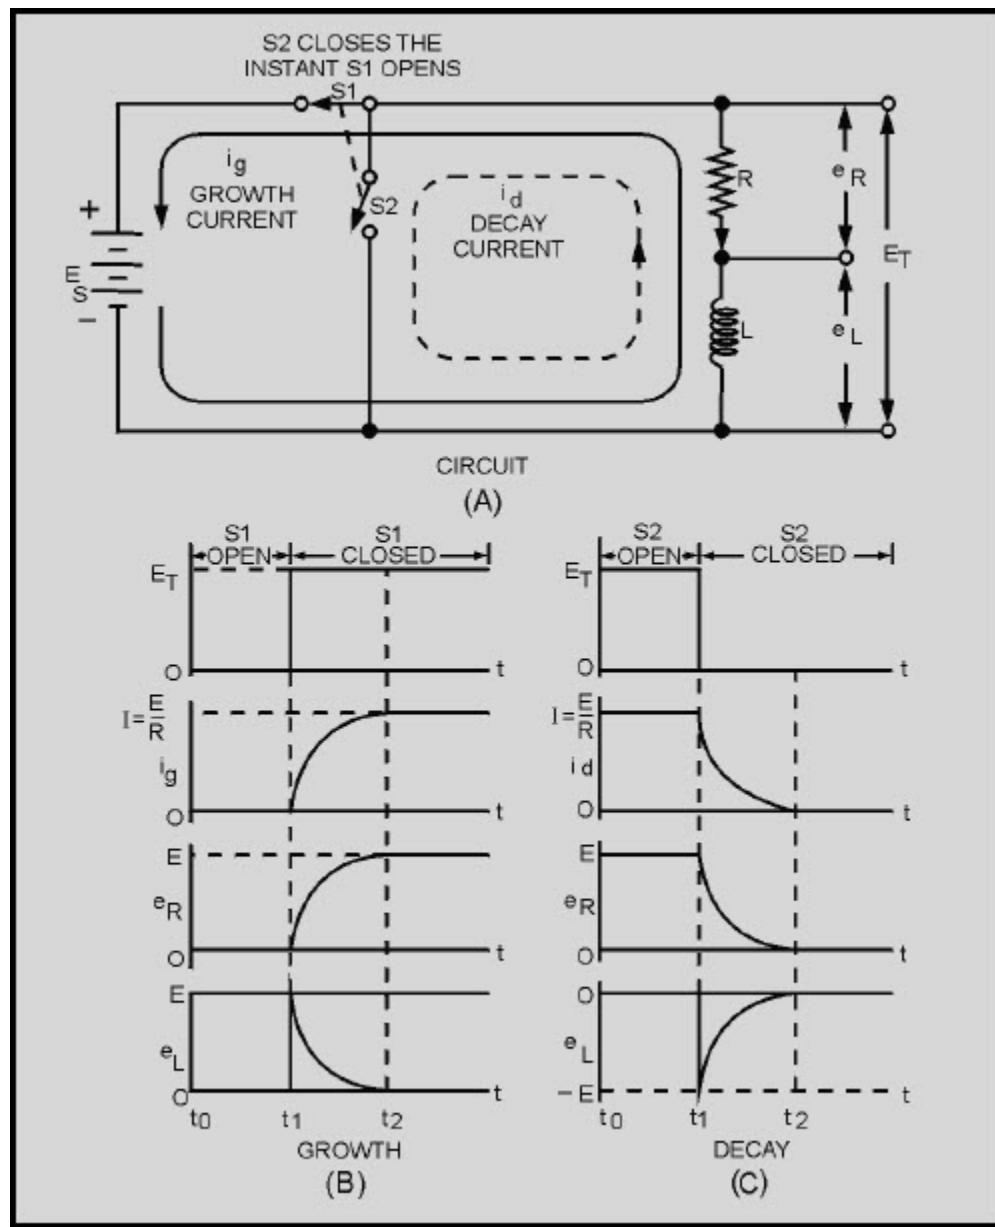

Figure 2-10 Growth and decay of current in an LR series circuit
A voltage divider containing resistance and inductance may be connected in a circuit by means of a special switch, as shown in figure 2-10(A). Such a series arrangement is called an LR series circuit.
When switch  $S_1$  is closed (as shown), a voltage  $E_s$  appears across the voltage divider. At this instant the current will attempt to increase to its maximum value. However, this instantaneous current change causes coil  $L$  to produce a back EMF, which is opposite in polarity and almost equal to the EMF of the source. This back EMF opposes the rapid current change. Figure 2-10(B) shows that at the instant switch  $S_1$  is closed, there is no measurable growth current ( $i_g$ ), a minimum voltage drop is across resistor  $R$ , and maximum voltage exists across inductor  $L$ .
As current starts to flow, a voltage ( $e_R$ ) appears across  $R$ , and the voltage across the inductor is reduced by the same amount. The fact that the voltage across the inductor ( $L$ ) is reduced means that the growth current ( $i_g$ ) is increased and consequently  $e_R$  is increased. Figure 2-10(B) shows that the voltage across the inductor ( $e_L$ ) finally becomes zero when the growth current ( $i_g$ ) stops increasing, while the voltage across the resistor ( $e_R$ ) builds up to a value equal to the source voltage ( $E_s$ ).
When the battery switch ( $S_1$ ) in the LR circuit of figure 2-10(A) is closed, the rate of the current increase is maximum in the inductive circuit. At this instant all the battery voltage is used in overcoming the emf of self-induction which is a maximum because the rate of change of current is maximum. Thus the battery voltage is equal to the drop across the inductor and the voltage across the resistor is zero. As time goes on more of the battery voltage appears across the resistor and less across the inductor. The rate of change of current is less and the induced emf is less. As the steady-state condition of the current is approached, the drop across the inductor approaches zero and all of the battery voltage is "dropped" across the resistance of the circuit.
Figure 2-10(C) shows that when switch  $S_2$  is closed (source voltage  $E_s$  removed from the circuit), the flux that has been established around the inductor ( $L$ ) collapses through the windings. This induces a voltage  $e_L$  in the inductor that has a polarity opposite to  $E_s$  and is essentially equal to  $E_s$  in magnitude. The induced voltage causes decay current ( $i_d$ ) to flow in resistor  $R$  in the same direction in which current was flowing originally (when  $S_1$  was closed). A voltage ( $e_R$ ) that is initially equal to source voltage ( $E_s$ ) is developed across  $R$ . The voltage across the resistor ( $e_R$ ) rapidly falls to zero as the voltage across the inductor ( $e_L$ ) falls to zero due to the collapsing flux.